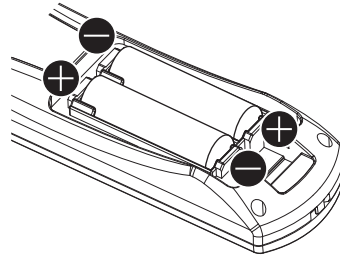

Fig. 2
- 2) Insert the batteries and close the cover (insert the **+** side first). (Fig. 2)